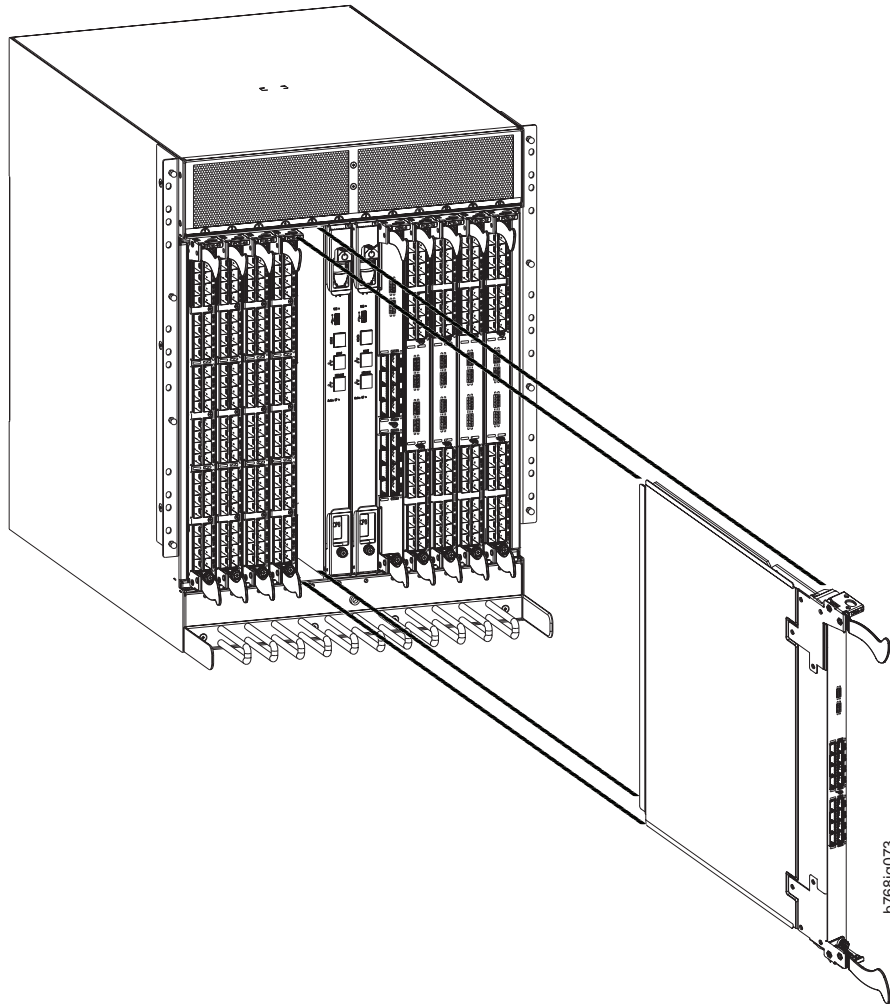

Figure 34. Removing the core switch blade
This section describes how to remove and install a core switch blade. Each SAN768B-2 has two core switch blades: one in slot 5 and one in slot 8. See Figure 34 on page 100.
4. Open the ejectors by rotating them toward the center of the blade face. Pull the blade out of the chassis using the ejectors. (see Figure 34 on page 100).